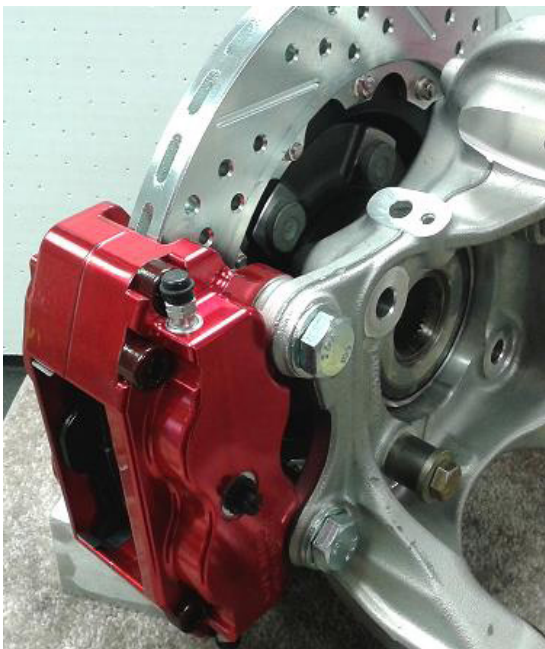

Figure 1: Caliper installed (inboard view)
6. Install the caliper to the spindle using the supplied M14-2.0 x 35 bolts and washers. Torque bolts to 110 ft lbs. See Figures 1 and 2 for reference.